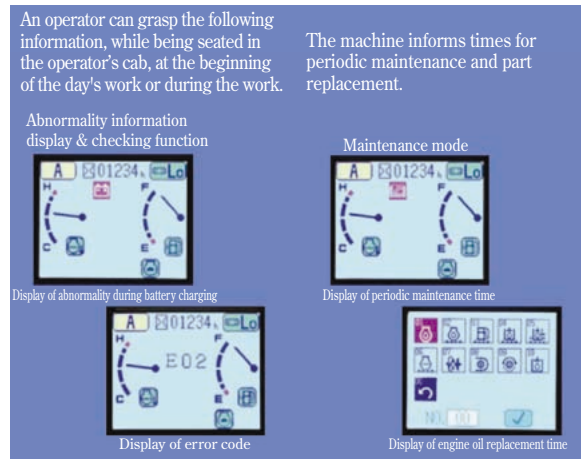

Fig. 17 EMMS
(4) EMMS (Equipment Management Monitoring System) stands for equipment management monitoring system. EMMS is installed on each machine to monitor its conditions and activities for the purpose of facilitating troubleshooting and speeding up repairs. If any abnormality is found in the machine during an inspection prior to the beginning of the day's work or during operation, that is displayed in the multi-monitor of EMMS to warn the operator. Moreover, an abnormality or failure occurred in the past is recorded and can be referenced as a history at the time of maintenance or repairs. It also memorizes a schedule for the maintenance service like a time for replacing the engine oil and announces when the time has come around. (See Fig. 17)